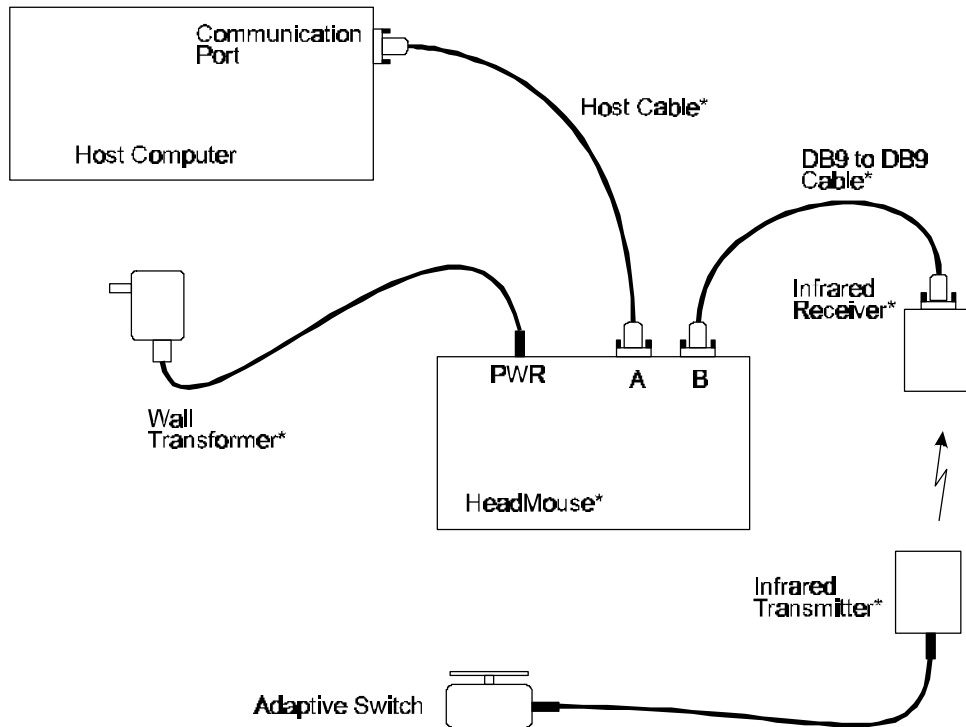

Figure 9 HeadMouse connected to a computer and set up for the “Standard” operating mode. Asterisk indicates equipment supplied by Origin Instruments.
For the "Standard" operating mode attach the Remote Switch Interface (RSI) receiver to "PORT B" with the supplied cable, see Figure 9. The adaptive switch or switches are connected to the infrared transmitter. A switch or switches may also be simultaneously connected to the rear panel connectors of the HeadMouse. However, switches
**Standard Mode:** The HeadMouse or HeadMouse and Smart Cable provides direct, head-controlled mouse emulation using a data format compatible with the desktop mouse it replaces. The HeadMouse sends out mouse data packets in direct proportion to target movements in azimuth and elevation. Switch closures input to the HeadMouse rear panel connectors or Remote Switch Interface are used to emulate a press of the left, right and middle mouse buttons. The Apple Macintosh mouse button is input to the HeadMouse as the left button. The RSI Receiver is connected to the HeadMouse “PORT B” connector (see Figure 9).